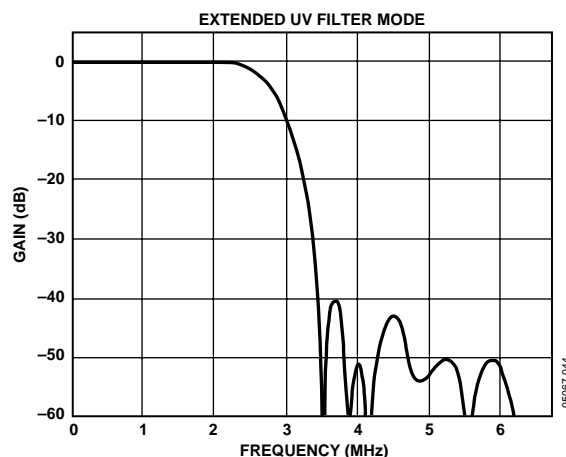

Figure 66. UV SSAF Filter
-40 dB at 3.8 MHz, as shown in Figure 66. This filter can be controlled with Address 0x42, Bit 0.